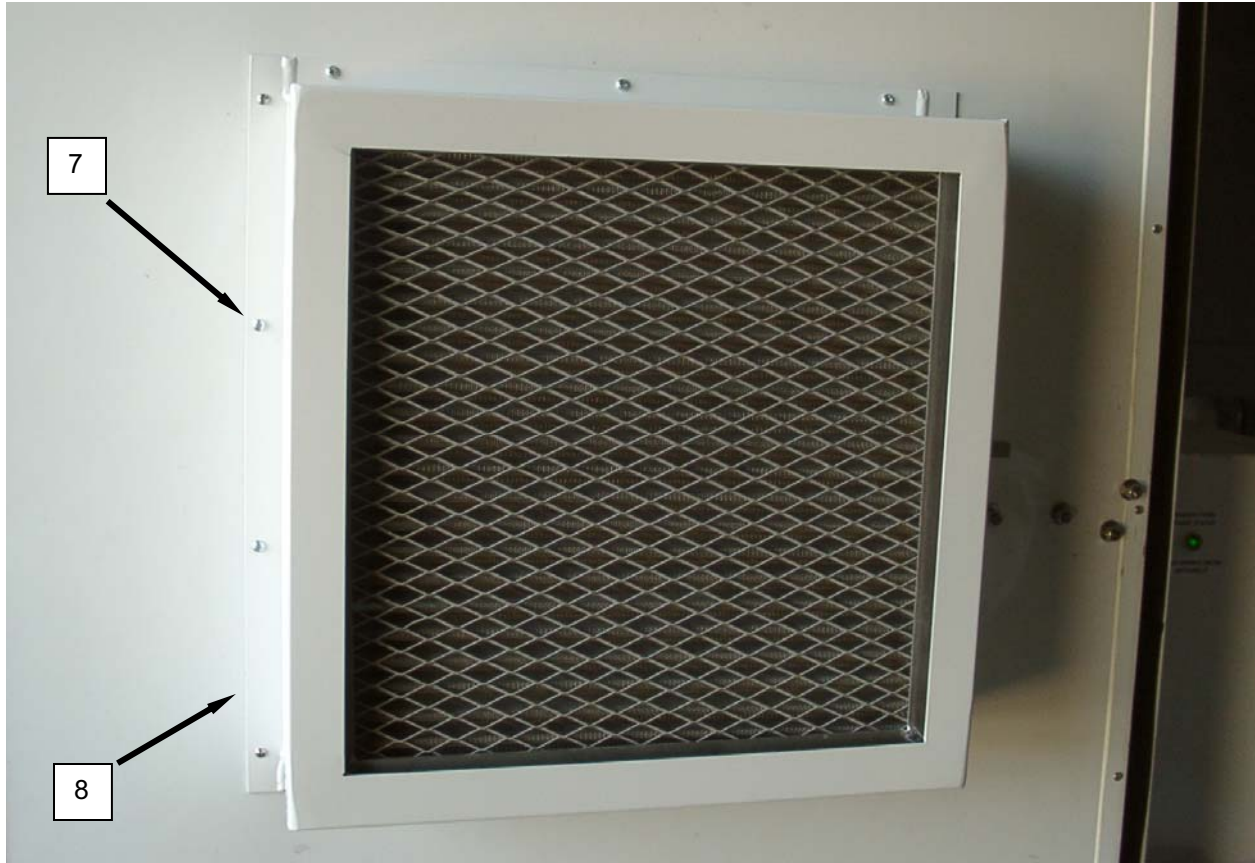

Figure 5. Replace a Personnel Door Filter Assembly.
1. Remove the screws (**Figure 5, Item 7**) retaining the filter assembly (**Figure 5, Item 8**) to the door and remove the filter assembly.
2. Apply sealant to the replacement filter assembly flange (**Figure 5, Item 8**) and install the replacement filter assembly. Retain with screws (**Figure 5, Item 7**).
3. Wipe excess sealant from replacement filter assembly (**Figure 5, Item 8**) flange.